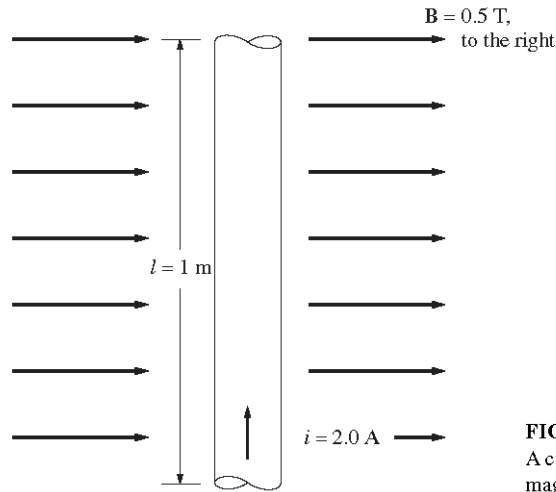

FIGURE P1-6
- 1-9.** A wire is shown in Figure P1-6 which is carrying 2.0 A in the presence of a magnetic field. Calculate the magnitude and direction of the force induced on the wire.